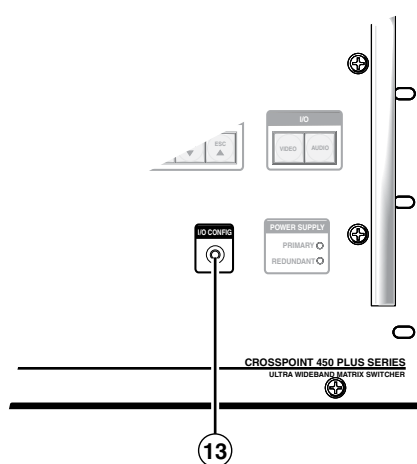
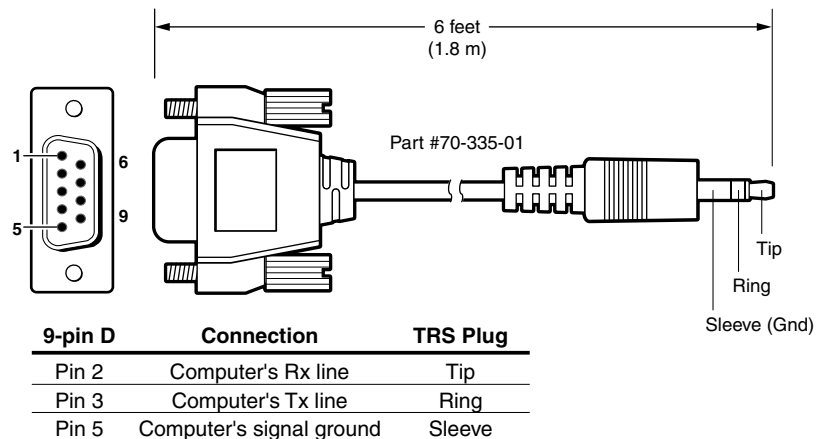

Figure 2-14 — Front panel configuration port
Figure 2-15 — Optional 9-pin TRS RS-232 cable
- ⑬ **Configuration port** — This 2.5 mm mini stereo jack (figure 2-14) serves the same serial communications function as the rear panel Remote port, but it may be easier to access. The optional 9-pin D to 2.5 mm stereo mini TRS RS-232 cable, part #70-335-01 (figure 2-15) can be used for this connection.